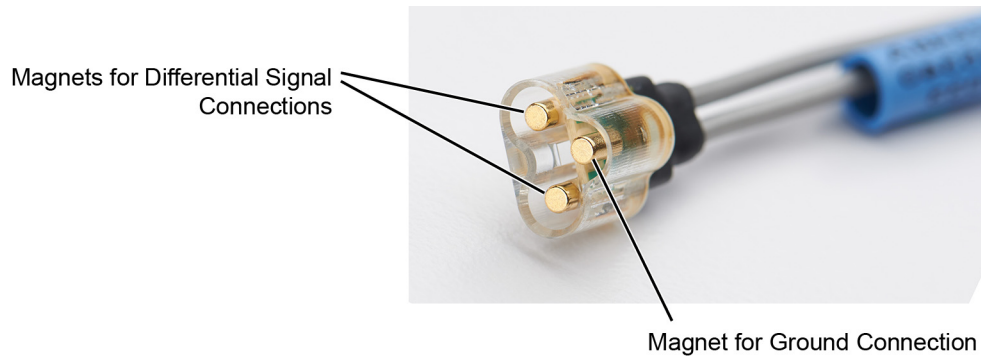

Figure 19 Magnet Connections in Probe Head
- Easy-to-make secure magnetic mechanical connection between probe head and QuickTip as shown in **Figure 19**. No latch lever is used!